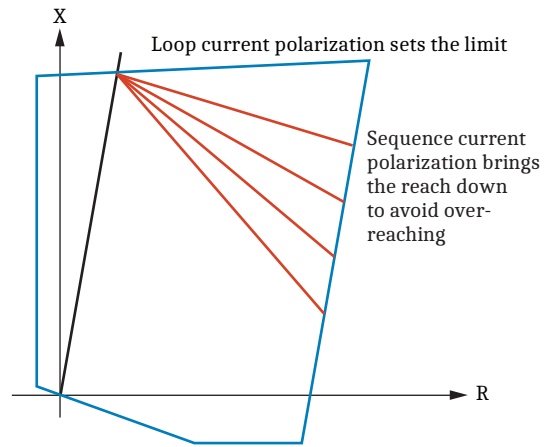

Figure 19 Enhanced Reactance Polarization (Zone 1 and Zone 2 if Used in the PILOT Scheme)
- The quadrilateral characteristic uses additional polarization with the sequence current to avoid overreaching on resistive faults with heavy line load. The ground element uses the sequence current (the sum of the negative- and zero-sequence currents) to obtain the second reactance line in addition to the reactance line obtained through polarizing with the loop current. The sequence-current-polarized line tilts up and down to reduce the infeed and outfeed effects. The Zone 1 quadrilateral logic uses an AND combination of the loop-polarized and sequence-current-polarized reactance conditions to prevent overreaching. The resulting characteristic tilts down when needed to avoid overreaching, but for security, it will not tilt up beyond the static loop current-polarized reactance line (see *Figure 19*). The relay applies this enhanced reactance polarization to both the phase and ground distance elements of Zone 1 and to Zone 2 if used in the PILOT logic.